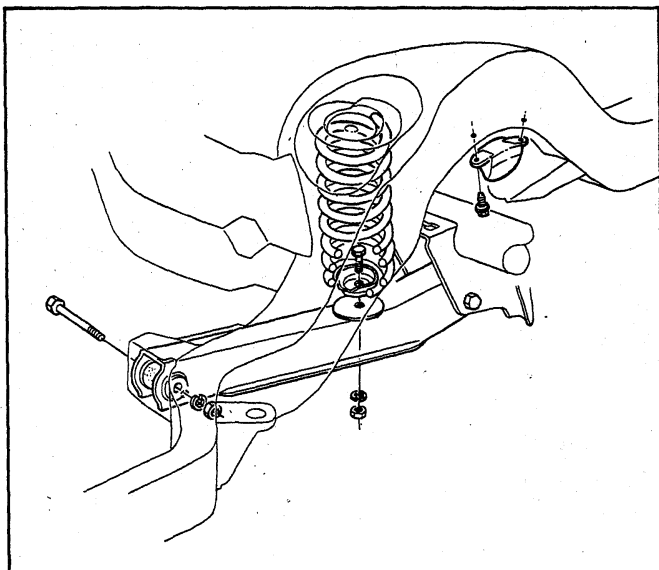

Fig. 14—Coil Spring Installation (Chevrolet)
6. Remove the lower seat attaching parts from each spring, then remove the springs from the vehicle (fig. 14).